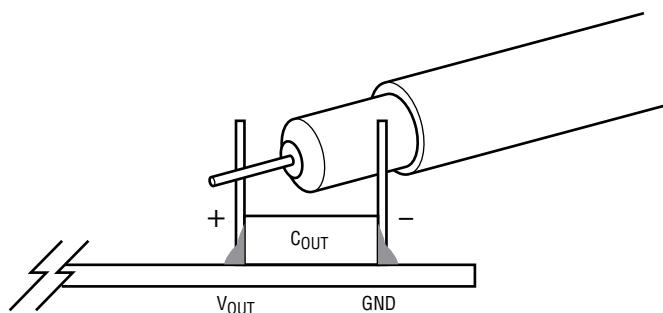

Figure 2. Scope Probe Placements for Measuring Input or Output Ripple
7. Once the input and output voltages are properly established adjust the loads within the operating range (0A to 1A max) and observe the output voltage regulations, output ripple voltages, switch node wave-forms and other parameters. Refer to Figure 2 for proper input/output voltage ripple measurement.
Note 1: To measure the input/output voltage ripple properly, do not use the long ground lead on the oscilloscope probe. See Figure 2 for the proper scope probe technique. Short, stiff leads need to be soldered to the (+) and (-) terminals of an output capacitor. The probe's ground ring needs to touch the (-) lead and the probe tip needs to touch the (+) lead.